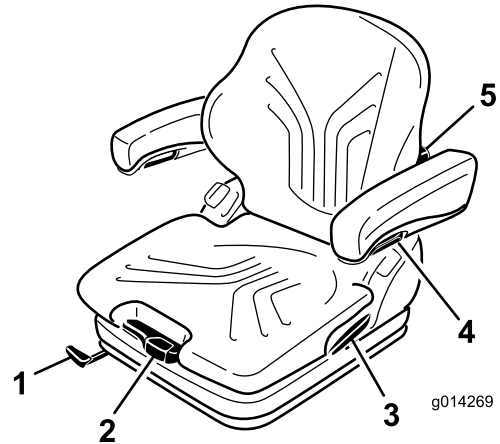

Figure 25
The seat is adjusted for the driver's weight by pulling or pressing the weight adjustment lever (Figure 25).
1. To adjust, lift the lever to unlock the seat (Figure 25).
By turning the adjustment knob upwards, the curvature in the upper part of the backrest cushion can be adjusted. By turning the knob downwards, the curvature in the lower part of the backrest cushion can be adjusted (Figure 25).
To adjust the armrests for height, separate the round cap (Figure 25) from the cover, loosen the hexagon nut (13 mm) behind it and adjust the armrests to the desired position and tighten the nut. Replace the cap onto the nut.
To adjust the angle of the armrests, turn the adjustment knob (Figure 25).
Pull up the locking lever to release the backrest catch (Figure 25). When releasing the backrest catch, do not apply load to the backrest by pressing against it.